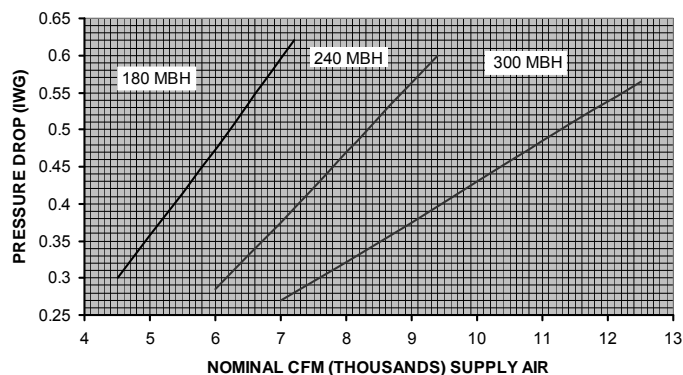

Figure 22: Pressure Drop Across A Dry Indoor Coil Vs. Supply Air CFM For All Unit Tonnages
4. Knowing the pressure drop across a dry coil, the actual CFM through the unit can be determined from the curve in Pressure Drop vs. Supply Air CFM Figure 22.